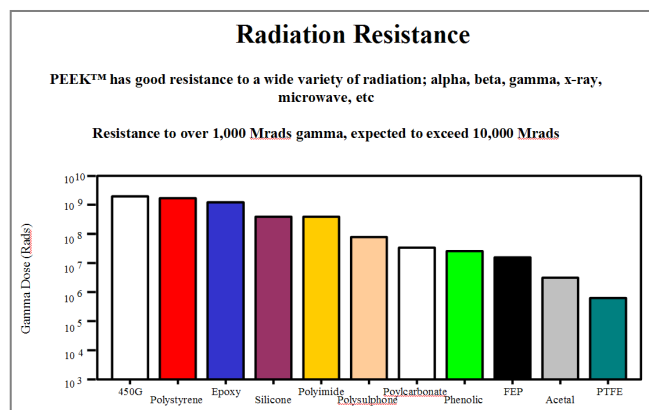

Figure 10
**Figure 10** shows that 450G PEEK™ has a greater resistance to radiation than other materials. PEEK™ also exhibits good resistance to a wide variety of other radiations such as: alpha, beta, gamma, x-ray, and microwave. A comparative bar chart of thermoplastic materials is shown in Figure 10, where the recorded dose is at the point at which a slight reduction in flexural properties is observed.